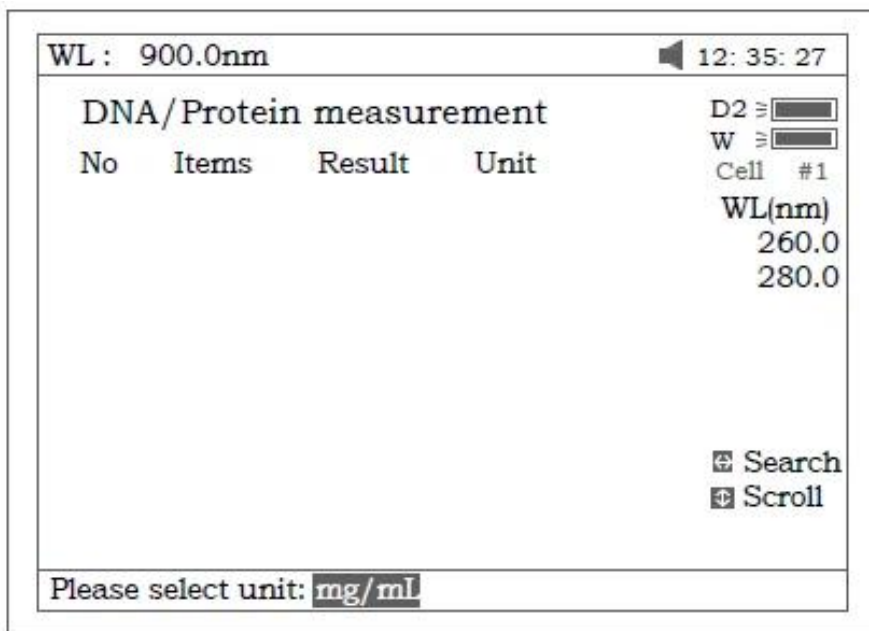

Figure 64
3. Press **【F3】** to select the unit of concentration (Fig 64).